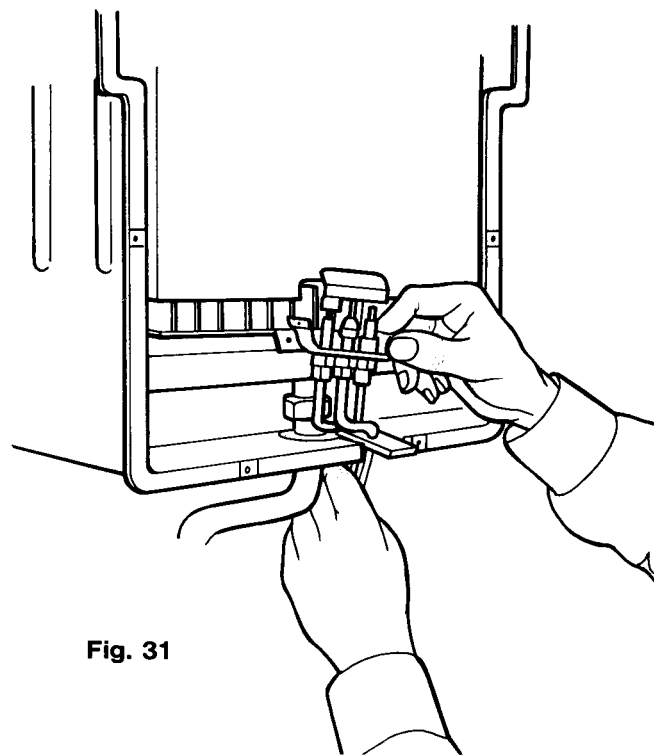

Fig. 31
8.5.3 To remove pilot burner assembly (Fig.31)